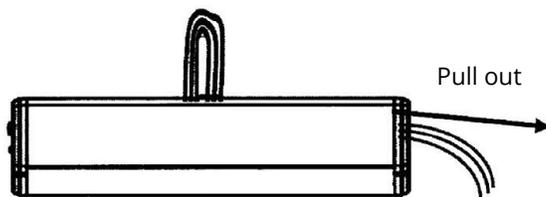

Fig.8
1. Pull out all AC wires from side of the fixture for surface end mounting (see fig.8)